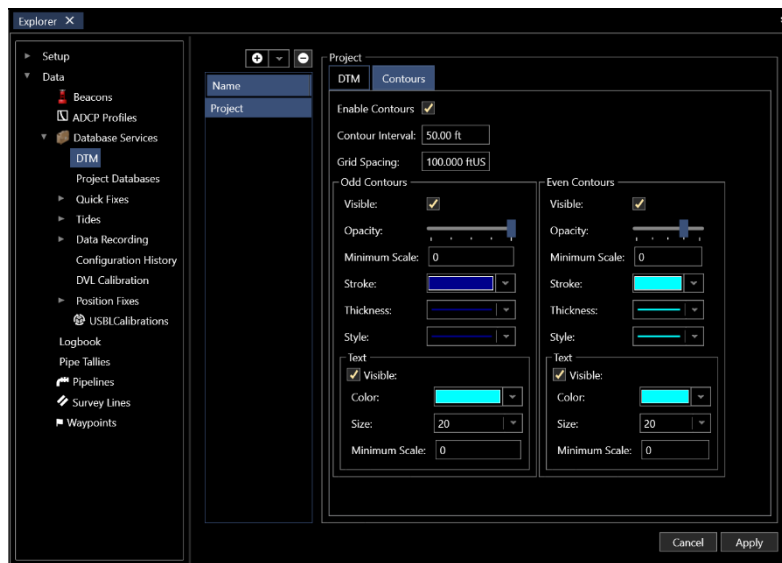

FIGURE 14-16 DTM - CONTOUR CONFIGURATION
2. From the DTM's loaded, select the DTM whose contour configuration is to be edited and click the **Contours Tab** (see Figure 14-16)